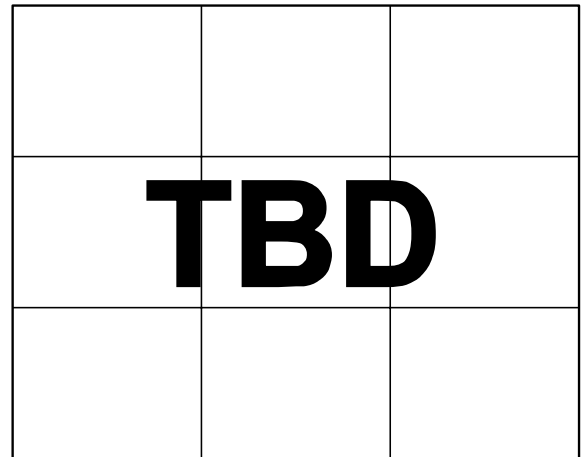

Figure 15. THD, Harmonics, and SFDR vs. Frequency
- The driver needs to have a THD performance suitable to that of the AD7641. Figure 15 gives the THD versus frequency that the driver should exceed.